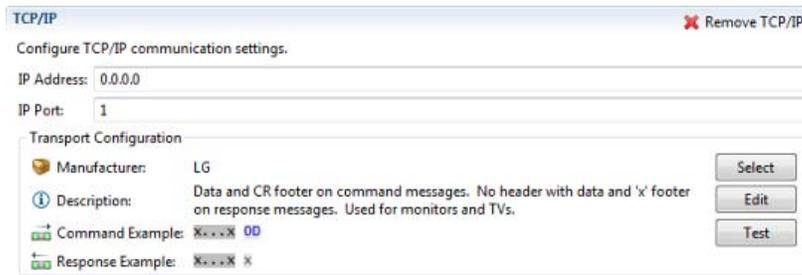

FIG. 39 TCP/IP Configuration options
- Once a transport configuration has been selected, a set of communication fields are provided (as well as *Select/Edit/Test* command buttons, and a *Remove TCP/IP* button). Use these fields to modify communication settings as required by the device (FIG. 39):